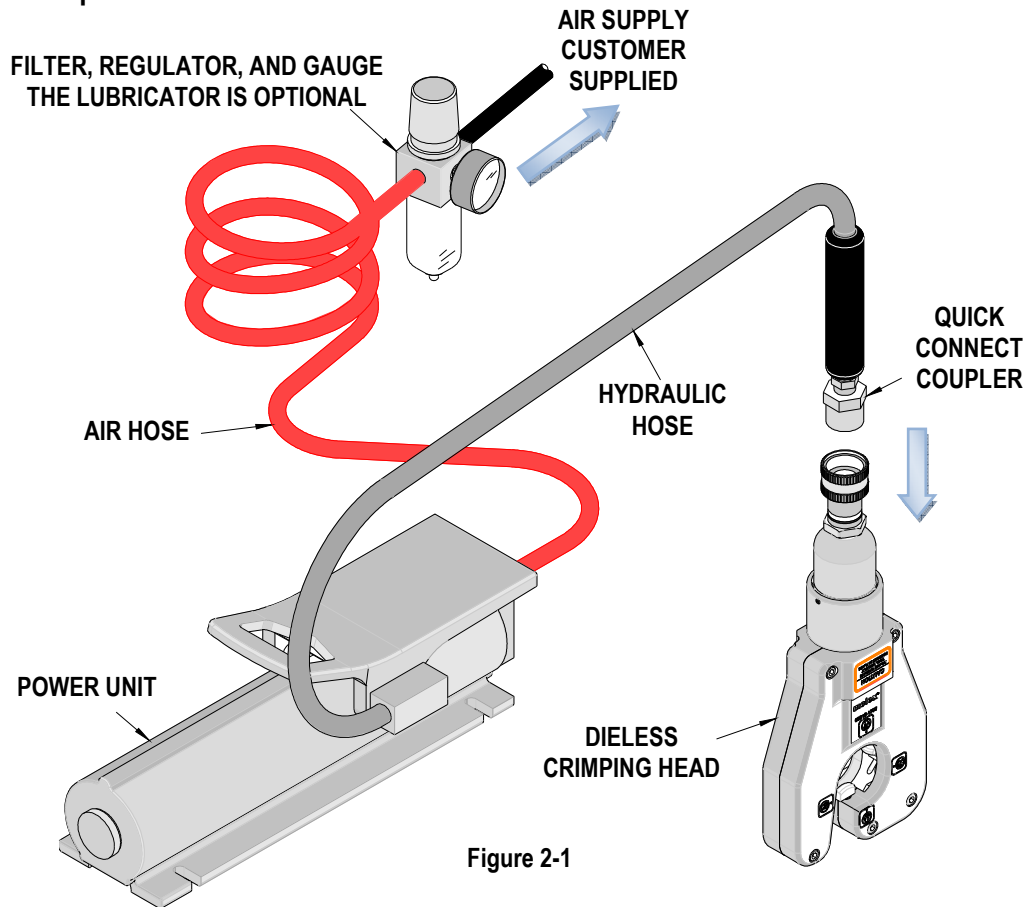

Figure 2-1
2. Next install the fittings to the filter, regulator, gauge unit. The air supply should be 20 CFM (550 L/M) and 100 PSI (6.9 Bars) to obtain the rated hydraulic output. Air pressure should be regulated to a maximum of 125 PSI (8.6 Bars). See Figure 2-1.
2. Connect the quick connect coupler onto the cylinder inlet on the crimp head. See figure 2-1.